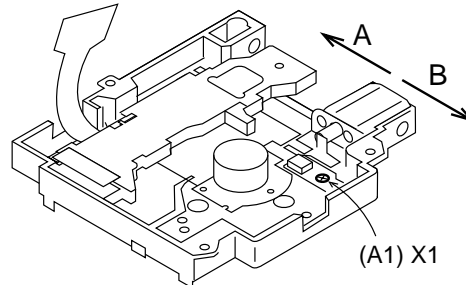

Figure 27-1
- After adjusting the position, fix it with the screw (A1) x 1 pc. (See Fig. 27-1)